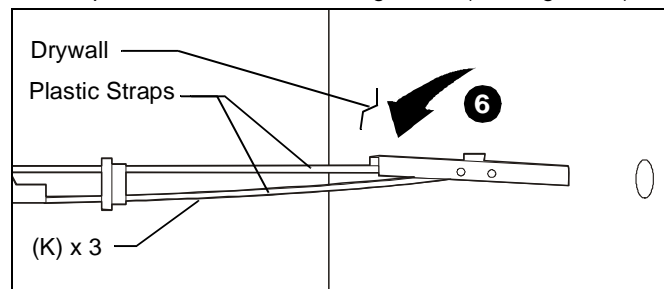

Figure 25
6. Hold metal channel on anchor (K) flat alongside plastic straps and slide channel through hole. (See Figure 25)